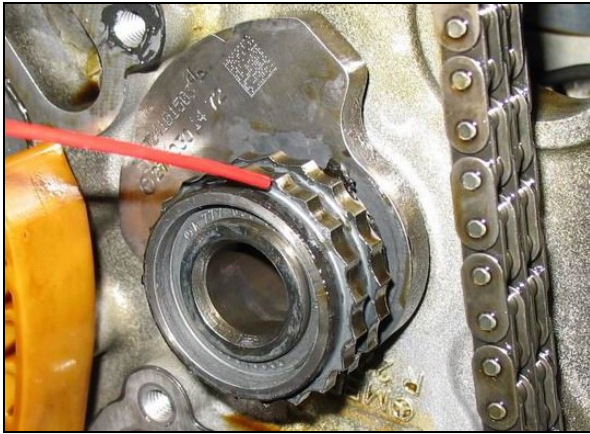
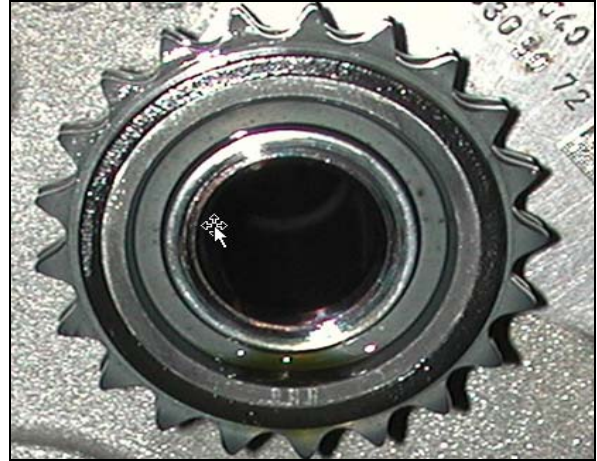

Figure 1 – Damaged/worn S-B-03.30/08a
Figure 4 – **New Gear** (comparison) S-B-03.30/08i
**Fault Code Scenario 1:** P0017 DTC 1200 and/or P0016 1208 is/are present in ME-SFI control module. The fault codes are recorded as current and/or stored in the fault memory. When the fault memory is erased and the engine is restarted, the fault codes reoccur immediately. This is due to the positioning of the timing chain driven camshafts relative to the crankshaft and can be caused by a worn sprocket on the balance shaft on engine M272 or by a worn guide (idler) gear for the timing chain on engine M273. Figure 1, 2 and 3 show extremely worn sprocket gears. Figure 4, for comparison, shows a new sprocket gear.
**i** **Note:** Refer to Figure 1 through 3 for examples of damaged / worn sprocket profile. Refer to Figure 4 for example of a new gear (for comparison).